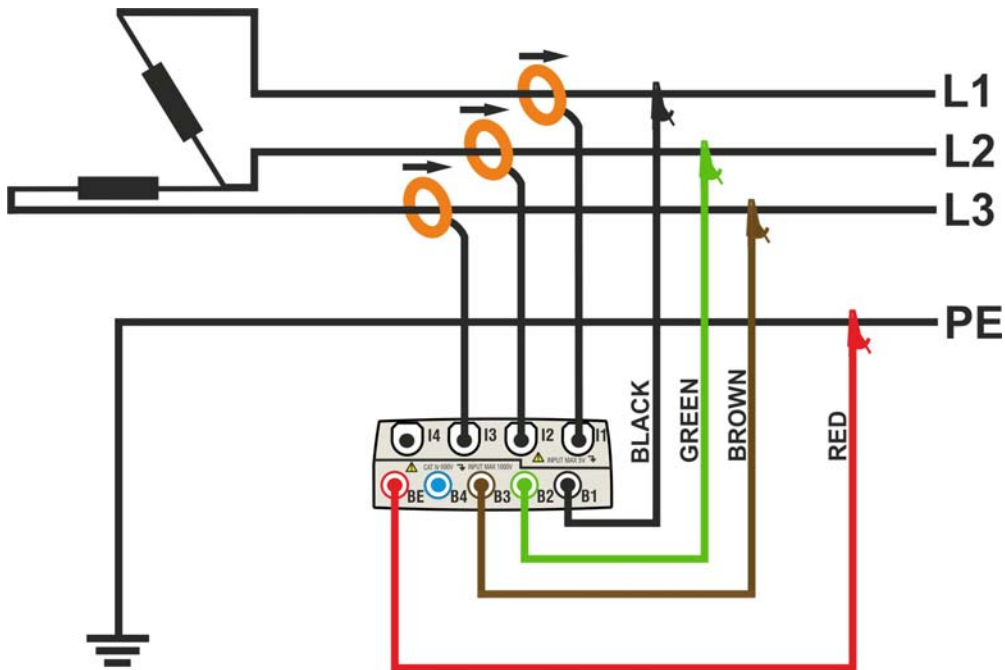

Fig. 170: Meter connection in a three phase 3POD system – ENG type
2. Connect voltage test leads on Phases L1, L2, L3 and PE cables considering the colours as shown in Fig. 170. **Verify the result “123” at display relative to a correct phase sequence indication** (see § 5.2.4.1) and perform the corrections if necessary.
3. Connect the transducer current clamps on Phase L1, L2, L3 cables as shown in Fig. 170 respecting the clamp’s arrow direction indicating the current standard sequence from generator to load. **On Real Time Values’ section screens (selecting a 3 wire system preliminarily) always verify the positive value of Active Power and the power factor relative to load which should be normally inductive** before starting a recording. Reverse the clamp by 180 degrees on cables in case of negative readings.